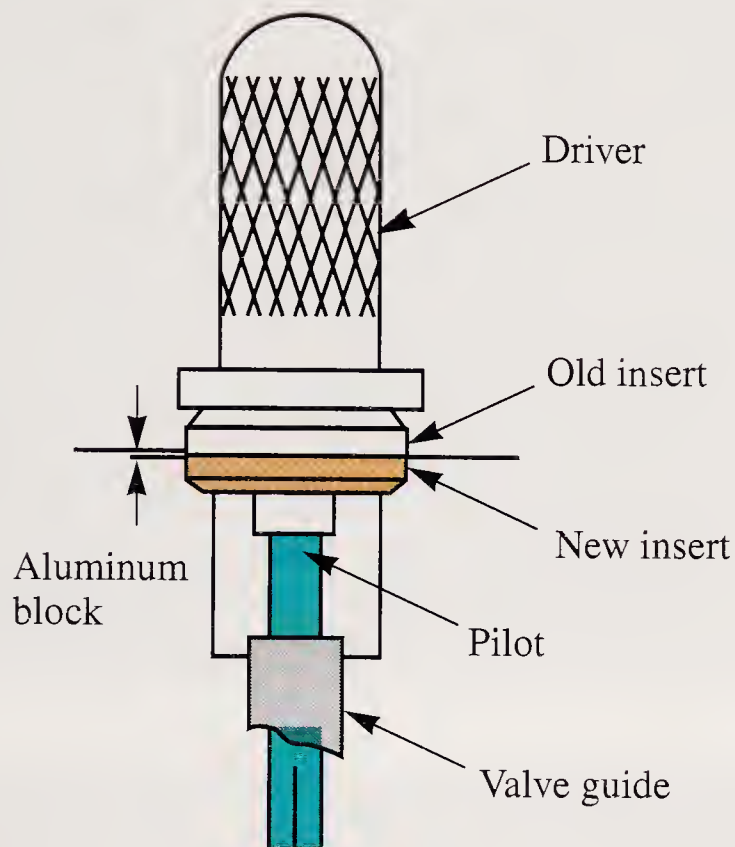

Figure 17-58. The old insert is used to drive in the new insert and seat it so that it will be slightly below the surface. (Briggs & Stratton Corp.)
1. Use the old insert as a spacer between the driver and the new insert (aluminum alloy engine only). Drive new insert until it bottoms. Top of insert will be slightly below cylinder head gasket surface. See **Figure 17-58**.